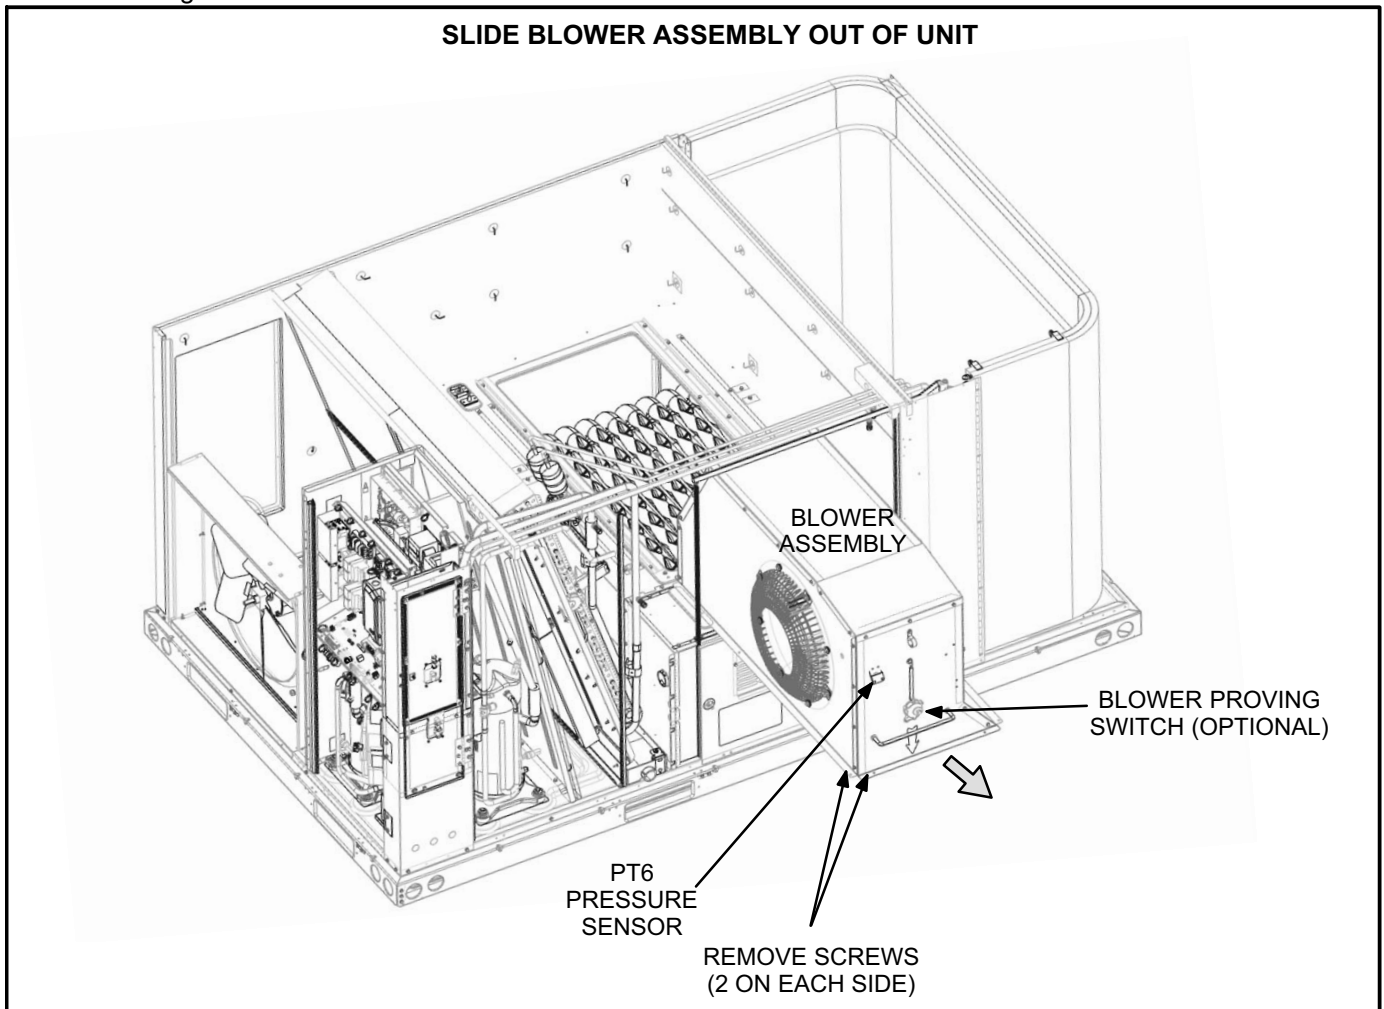

FIGURE 5
- 6- Remove four screws securing blower assembly to unit. See figure 5.
- 15- Install blower assembly flanges into rails on the blower deck in the same manner it was removed. Secure into place using four screws shown in figure 5.